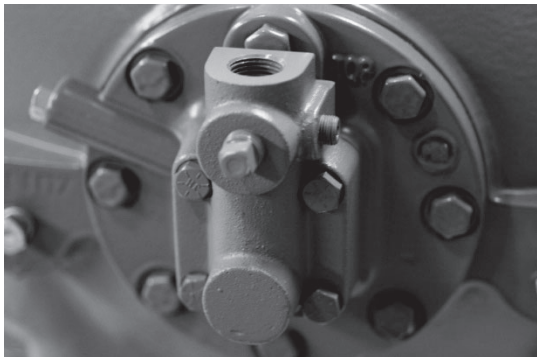

Fig. 20 — OPSS Sensor Block Installed
- d. Next, install the sensor block (P/N 06EA507202) over the gasket and the 1/4 in. NPT O-ring seal fitting as shown. Mount the sensor block to the bearing head using the four 5/16 in.-18 x 1-1/4 in. Allen head bolts provided in the kit (Torque to 15-20 ft/lbs). (Be sure spring and recess cup are in place). Refer to Fig. 20.